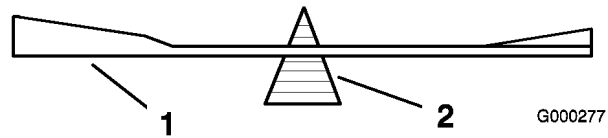
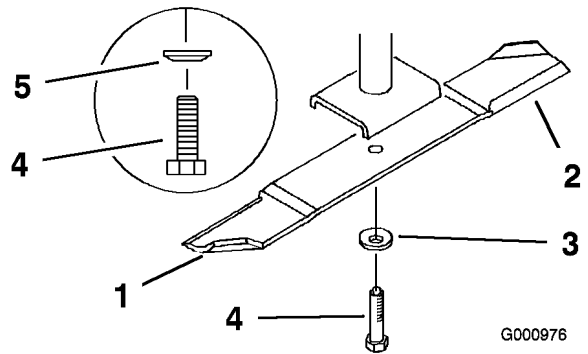

Figure 66
Figure 67
2. Remove the blade bolt, spring disk and blade from the spindle shaft (Figure 67).
2. Check the balance of the blade by putting it on a blade balancer (Figure 66). If the blade stays in a horizontal position, the blade is balanced and can be used. If the blade is not balanced, file some metal off the end of the sail area only (Figure 67). Repeat this procedure until the blade is balanced.
1. Install the blade onto the spindle shaft (Figure 67).
2. Install the spring disk and blade bolt. The spring disk cone must be installed toward the bolt head (Figure 67). Torque the blade bolt to 85-110 ft-lb (115-150 N•m).